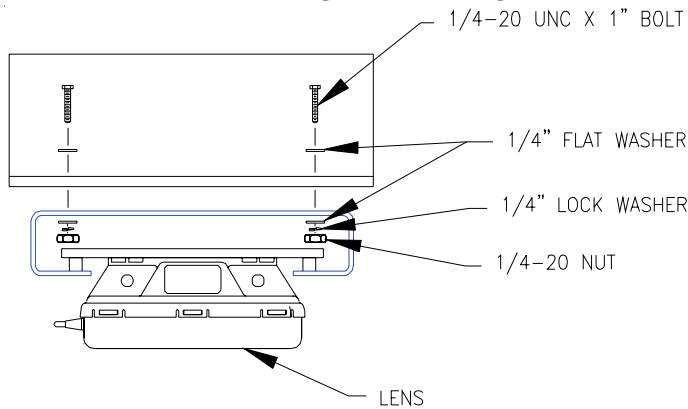

FIGURE 4
- 5) Bolt radar to mounting bracket using mounting hardware. See Figure 4.